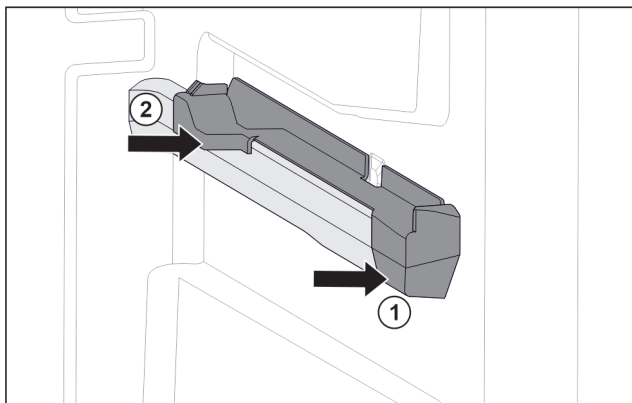

Fig. 94 Attachment on the right moulded rib
- Position attachment on moulded rib at the front. *Fig. 94 (1)*
- Press on attachment at the back. *Fig. 94 (2)*